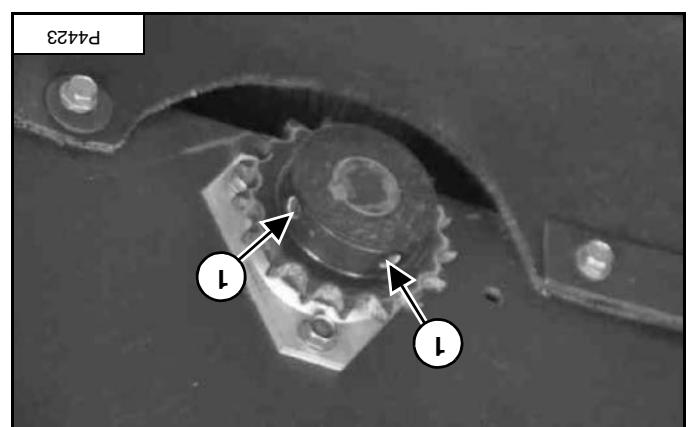

Figure 113
remove the set screws (item 1) [Figure 113] and remove the sprocket.